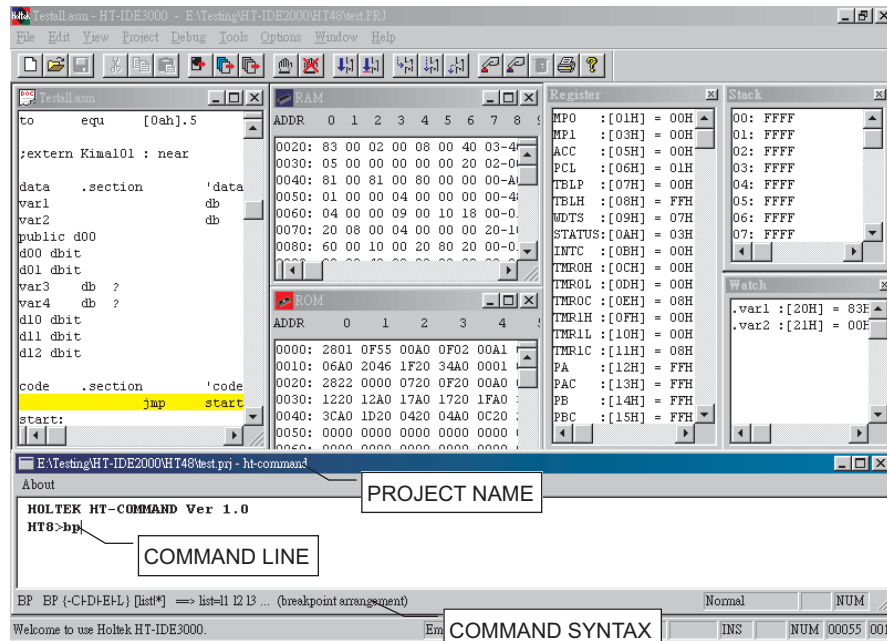

Fig 5-9
- After the command has been entered at the "HT8> xxxx" prompt, the next line will display the result of the command execution. (Fig 5-9)